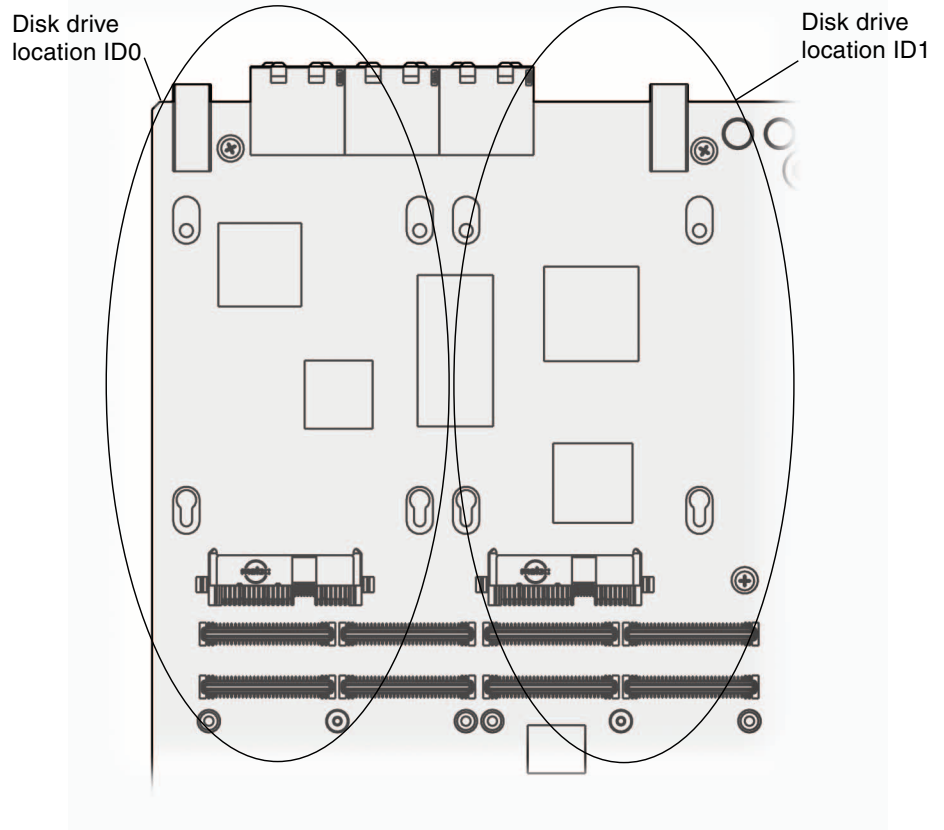

FIGURE 2-9 Disk Drive Locations on the Netra CP3020 Board
4. Locate the disk drive locations on the Netra CP3020 board (FIGURE 2-9).
5. Install the standoffs in the locations shown in FIGURE 2-9.